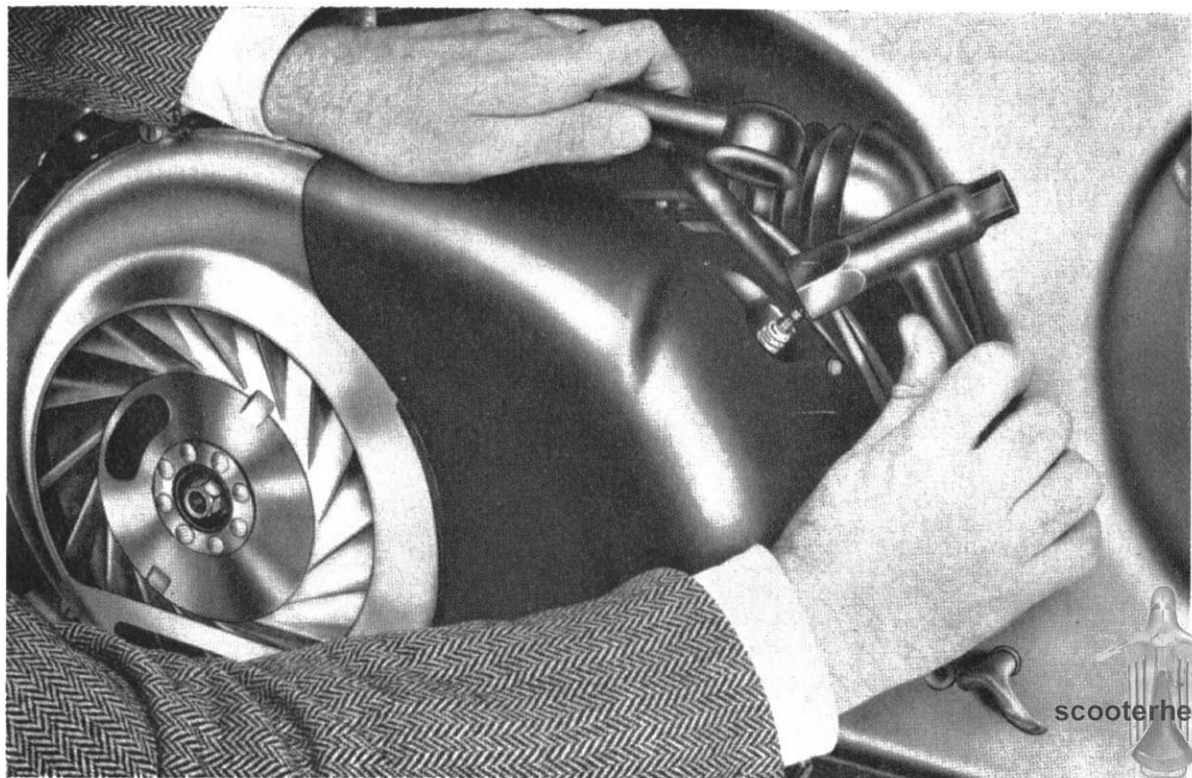

Fig. 14—Removing spark-plug
- Close the fuel tap, remove the sparking plug (Fig. 14) and clean; then kick over the engine several times.